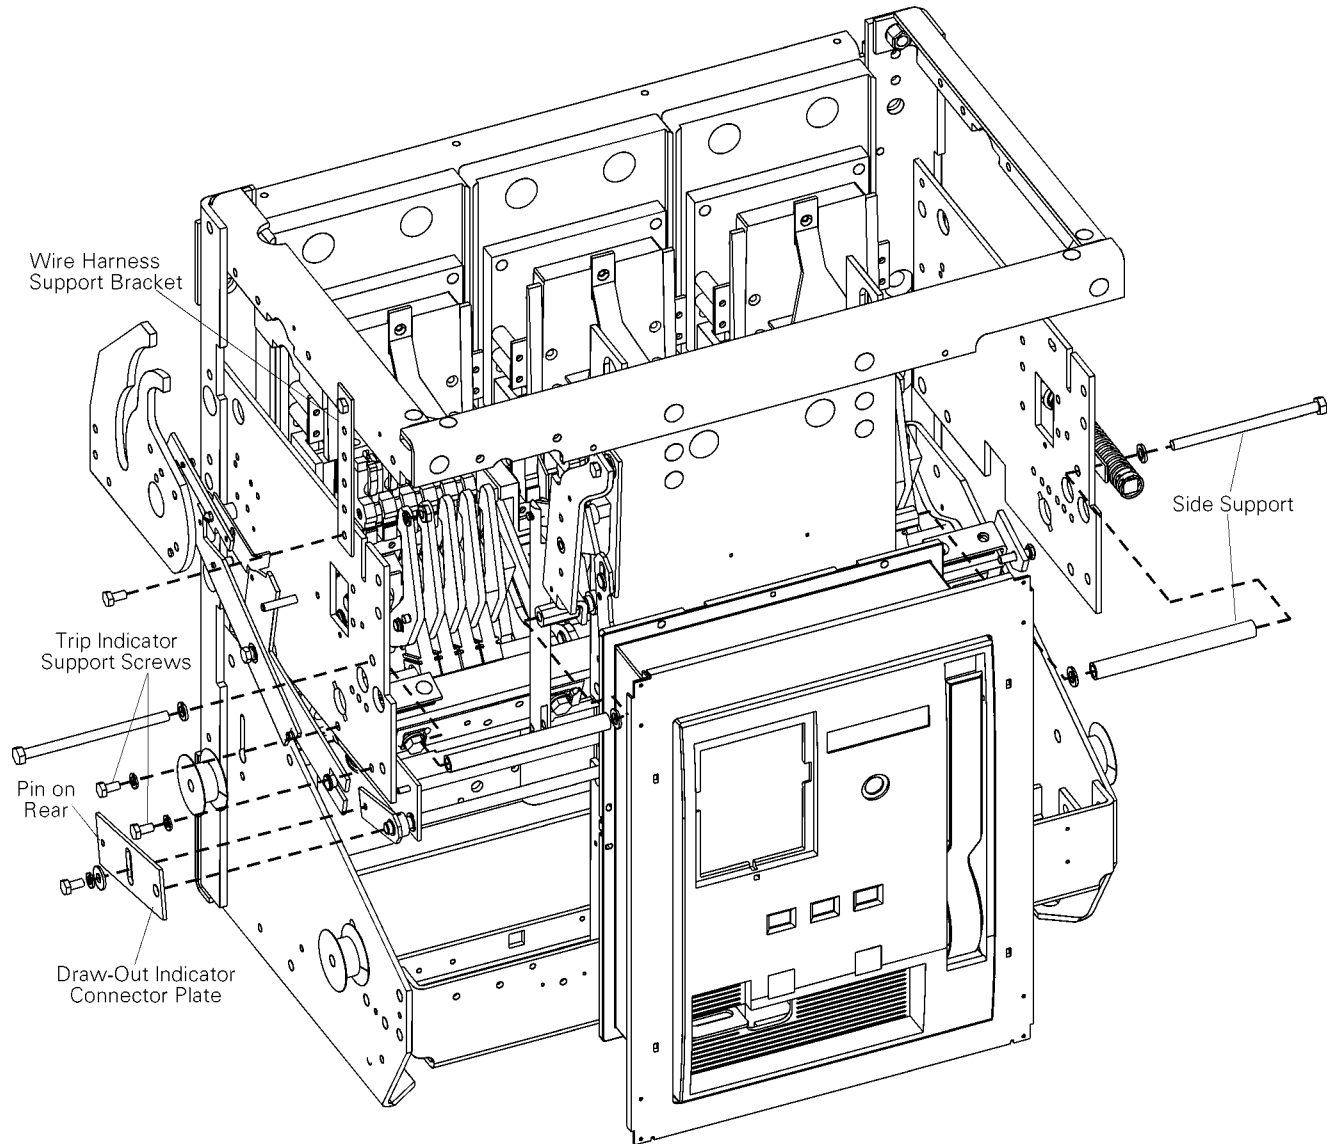

Figure 5-10. Removal of the position interlock and draw-out indicator support plate.
11. Remove the screw, lock washer, and nut attaching the harness support bracket to the back frame side plate, as illustrated in Figure 5-10.
4. Reattach the wire harness support bracket with the screw, lock washer, and nut, as illustrated in Figure 5-10.
7. Place the pin on the rear of the draw-out indicator connector plate into the open slot in the end of the draw-out indicator. Place the hole in the plate over the pin on the end of the shaft, as indicated in Figure 5-10. Place the screw, lock washer, and flat washer through the slot in the connector plate into the tapped hole as shown. To adjust the connector plate, back the plate with the spring against the stop screw, then tighten the screw on the connector plate.